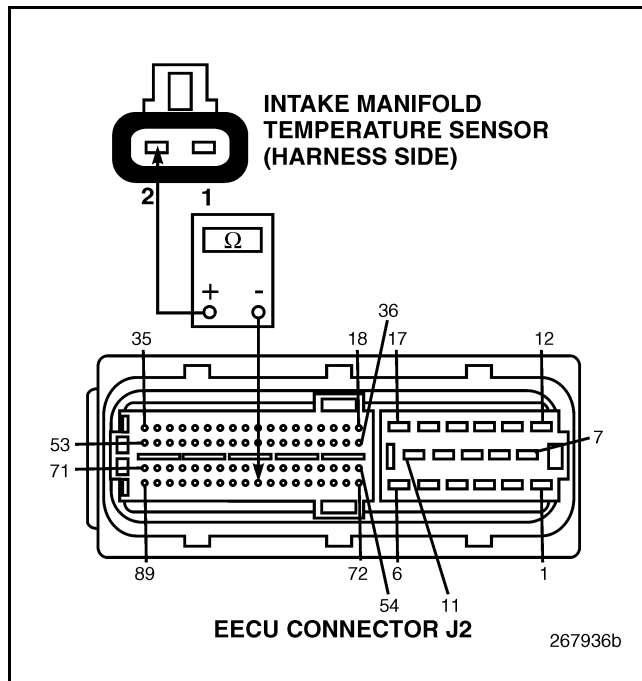

Figure 214
4. Check for continuity between pin 2 of the IMT Sensor harness connector and EECU harness connector J2 pin 80 (see Figure 214).